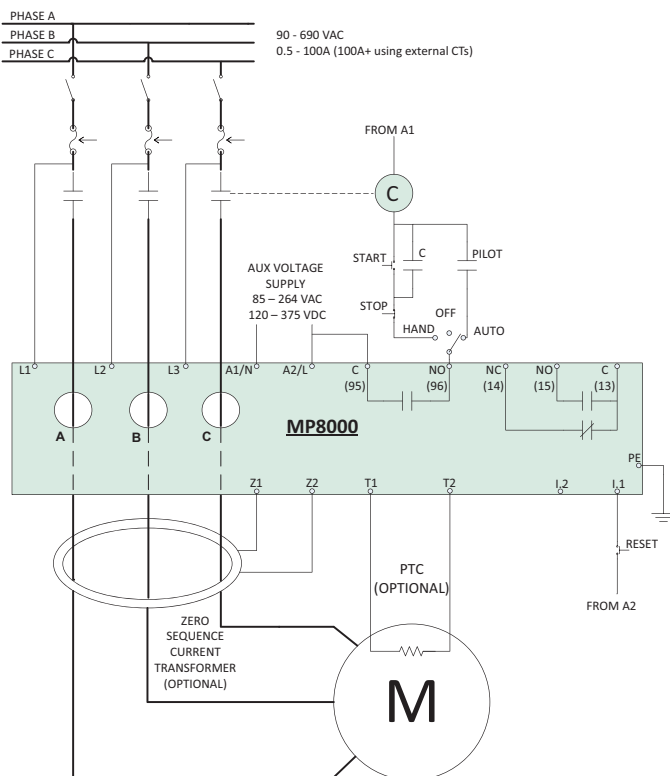

Figure 10
3. Provide control power to power the MP8000 with 85-264 VAC or 120-375 VDC and connect to terminals A1 and A2 per the diagrams on page 2. (See Figures 10 and 11)